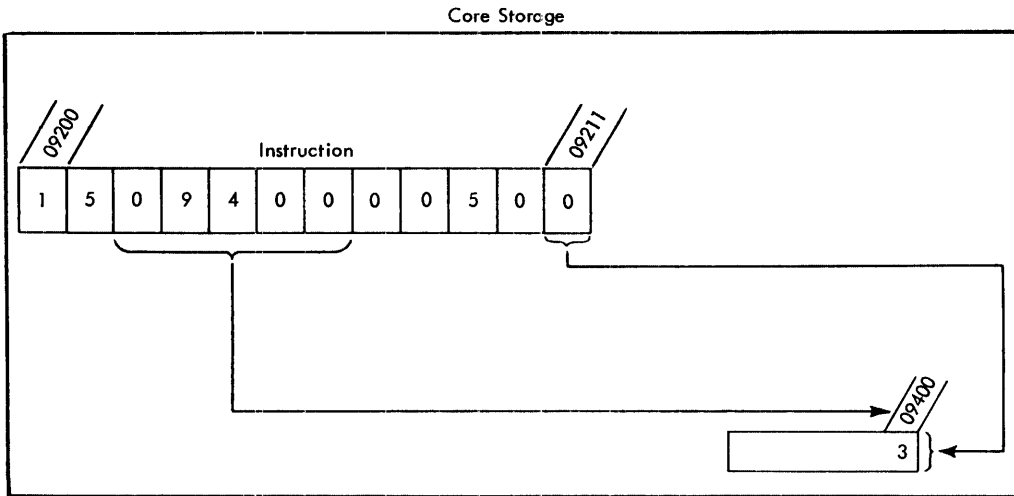

Figure 33. Transmit Digit Immediate – Data Flow
In Figure 33, if the Transmit Digit Immediate instruction (15 09400 00500) is at 09200, the digit (0) at 09211 is transmitted to the core storage location specified by the P address (09400). The 3 at 09400 is replaced by the 0, which also remains in 09211.